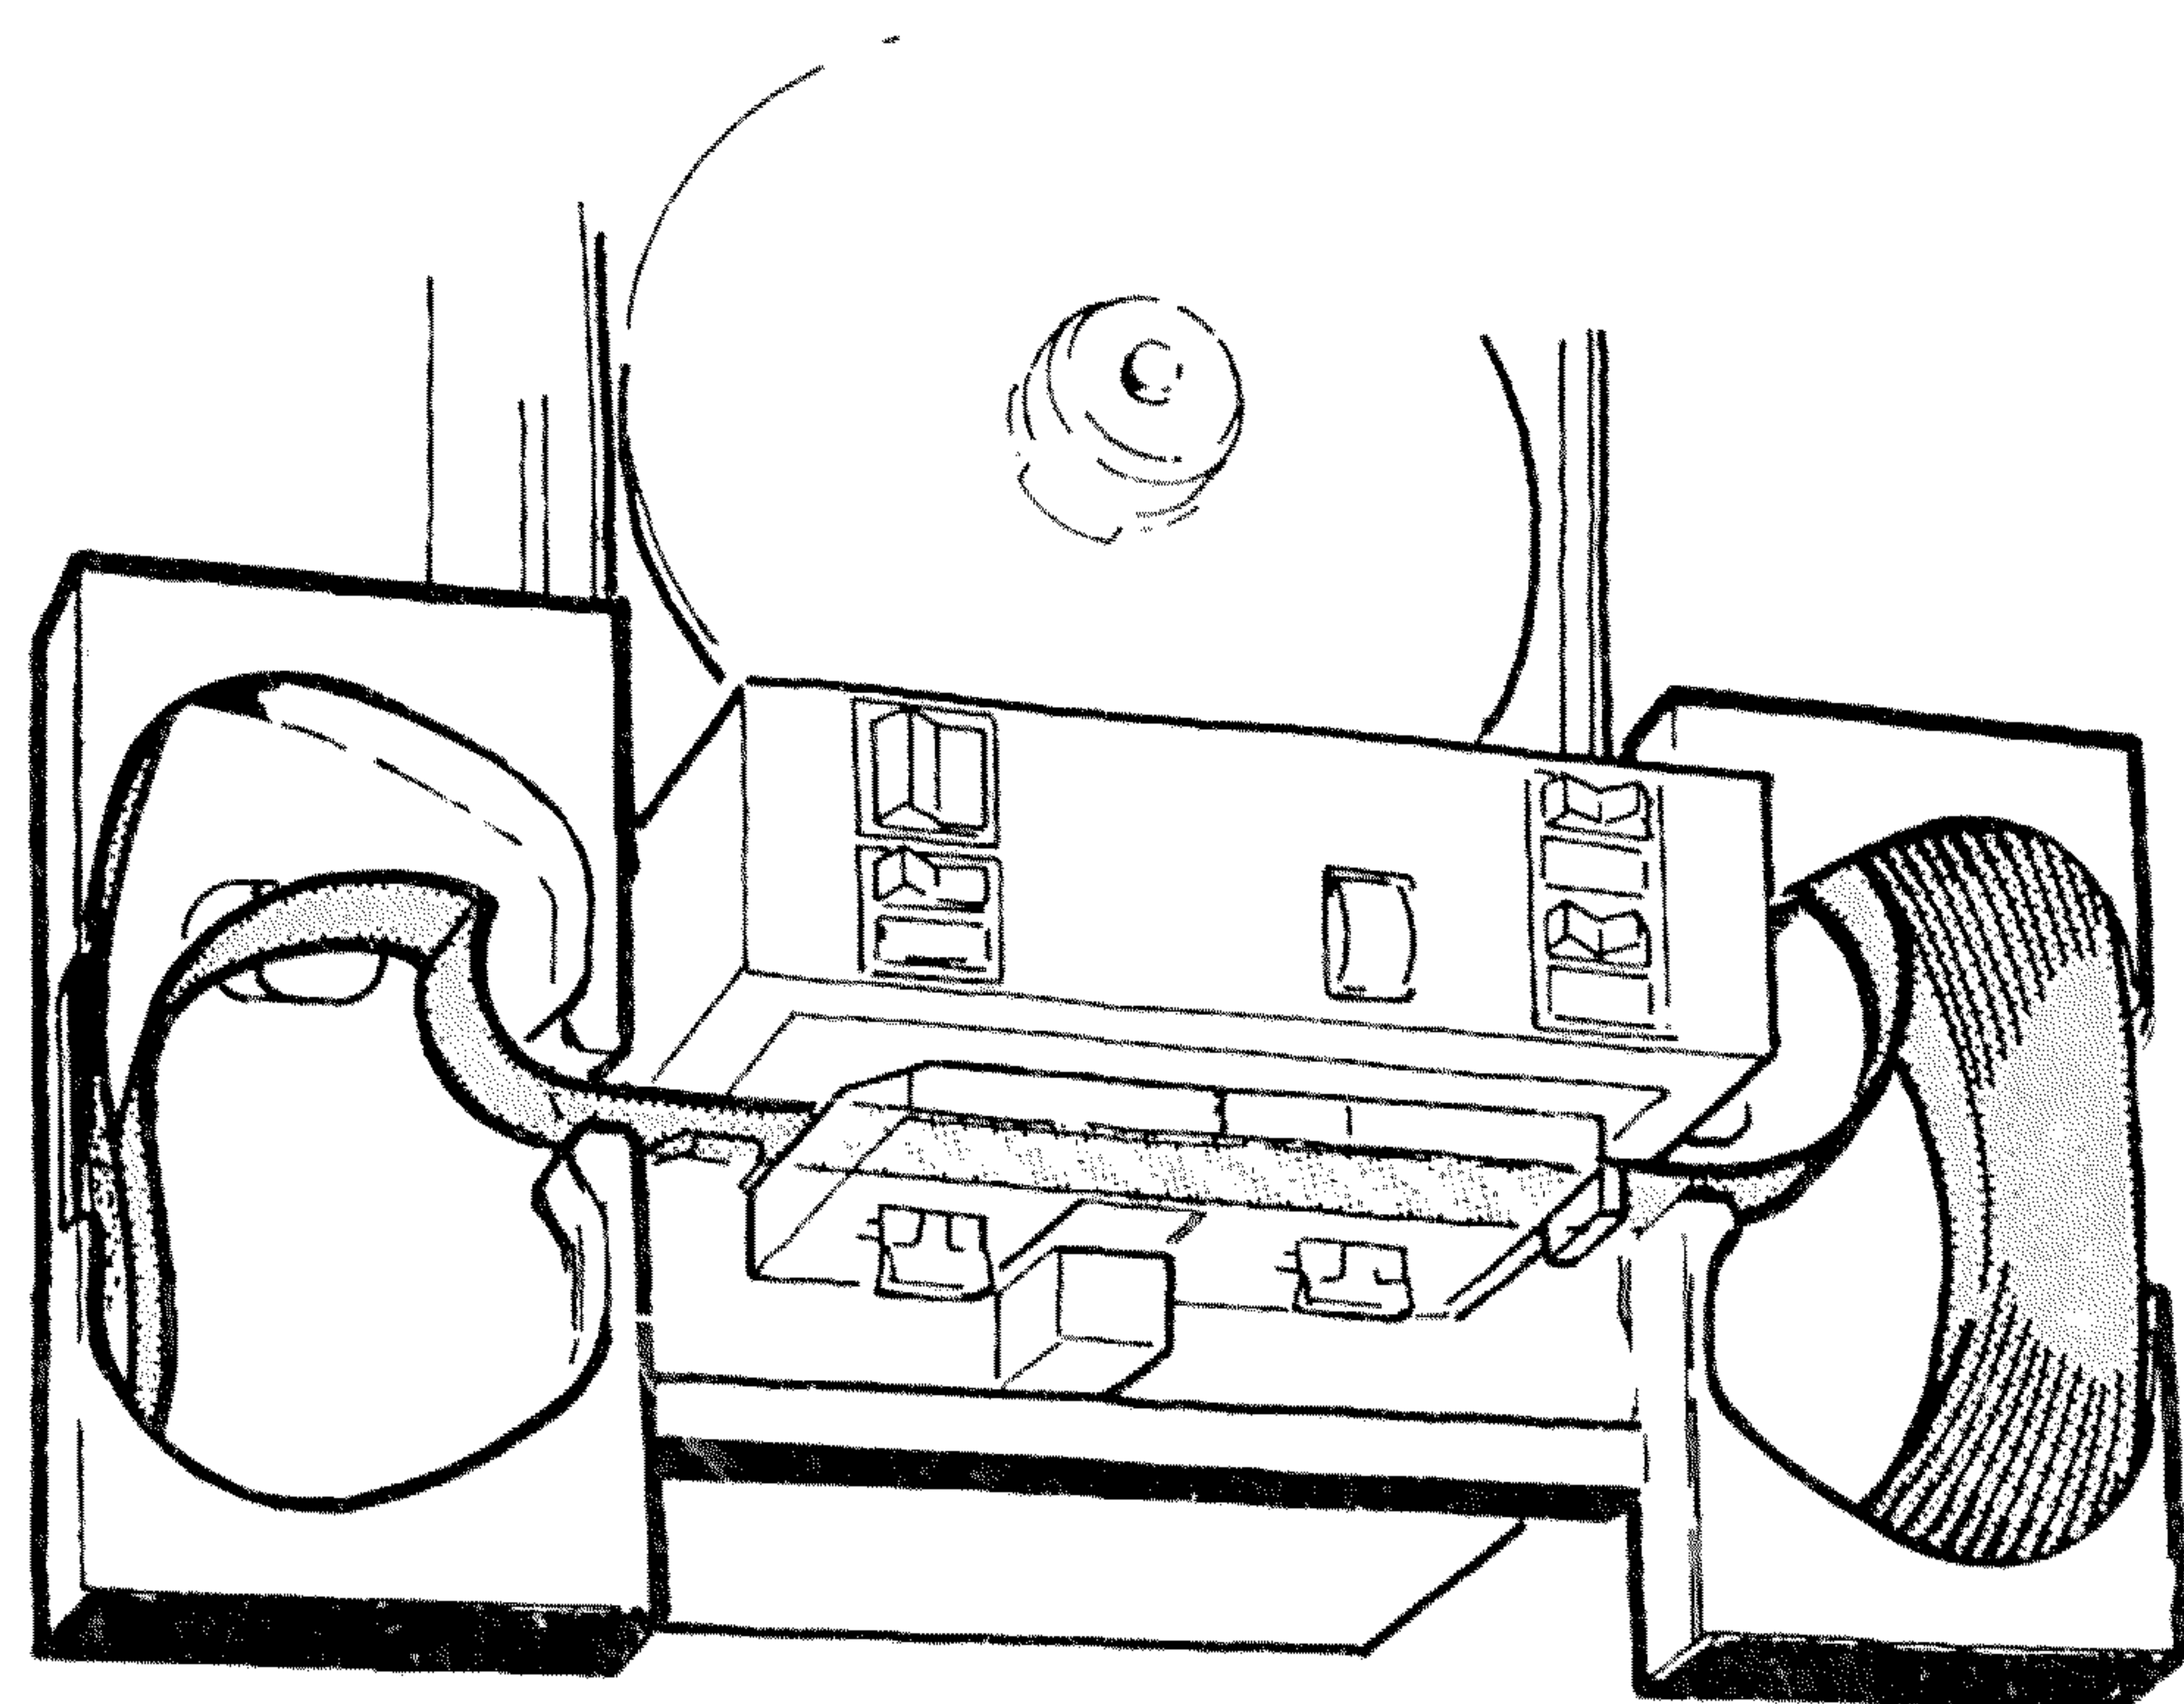

Fig. 14
- Position the tape in the left-hand cassette compartment so that it will be folded in the same way as previously. See Fig. 14. Close the cover by pressing on the white "press-to-lock" spot.